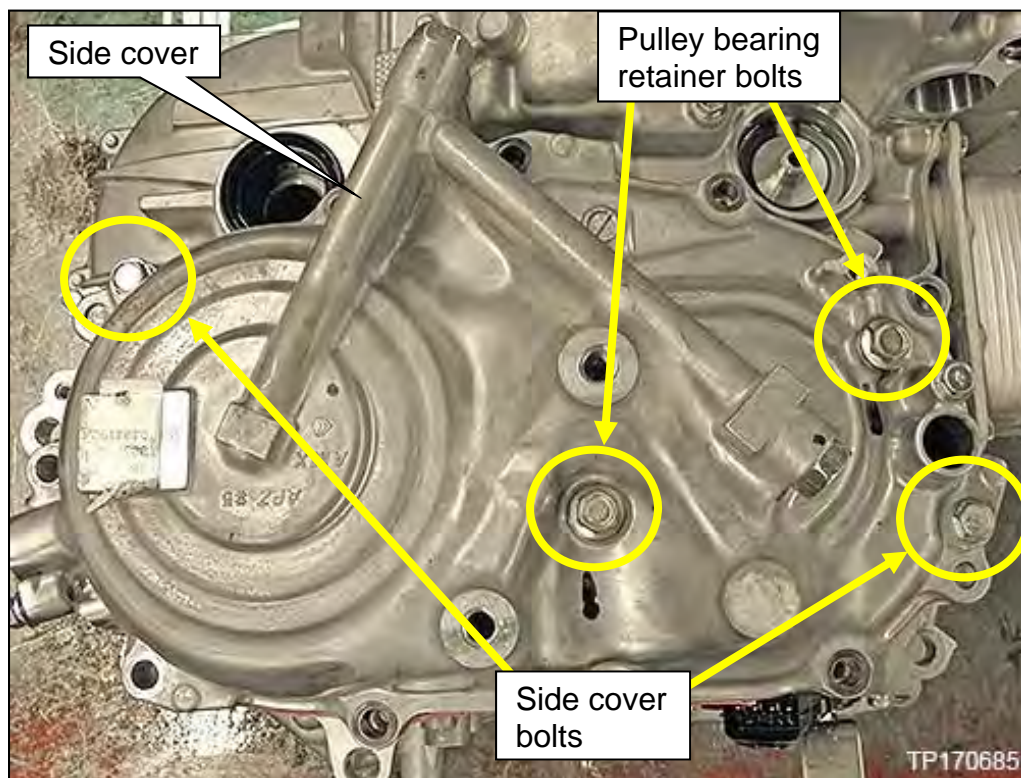

Figure 101
81. Install the two (2) original pulley bearing retainer bolts (Figure 101) as follows:
82. Temporarily reattach the removed side cover onto the CVT case with two (2) original bolts on opposite corners, hand tight.